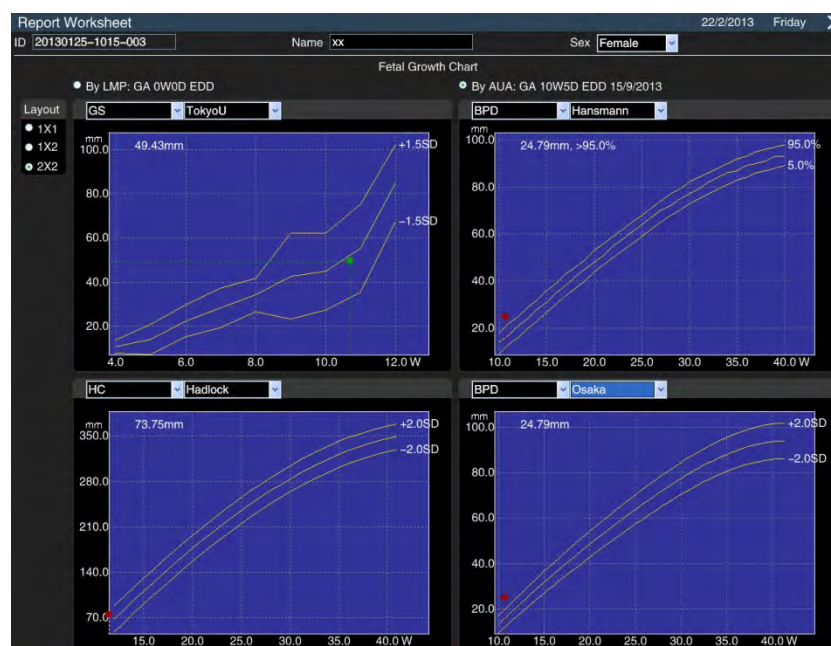

Figure 127: Growth charts (four images)
*The layout* on the left side of the screen is used to choose the growth curves and position to make comparative analysis easier.  $1 \times 2$  is for two images which are displayed side-by-side.  $2 \times 2$  is for four pictures that are displayed in two lines, as shown in Figure 127.